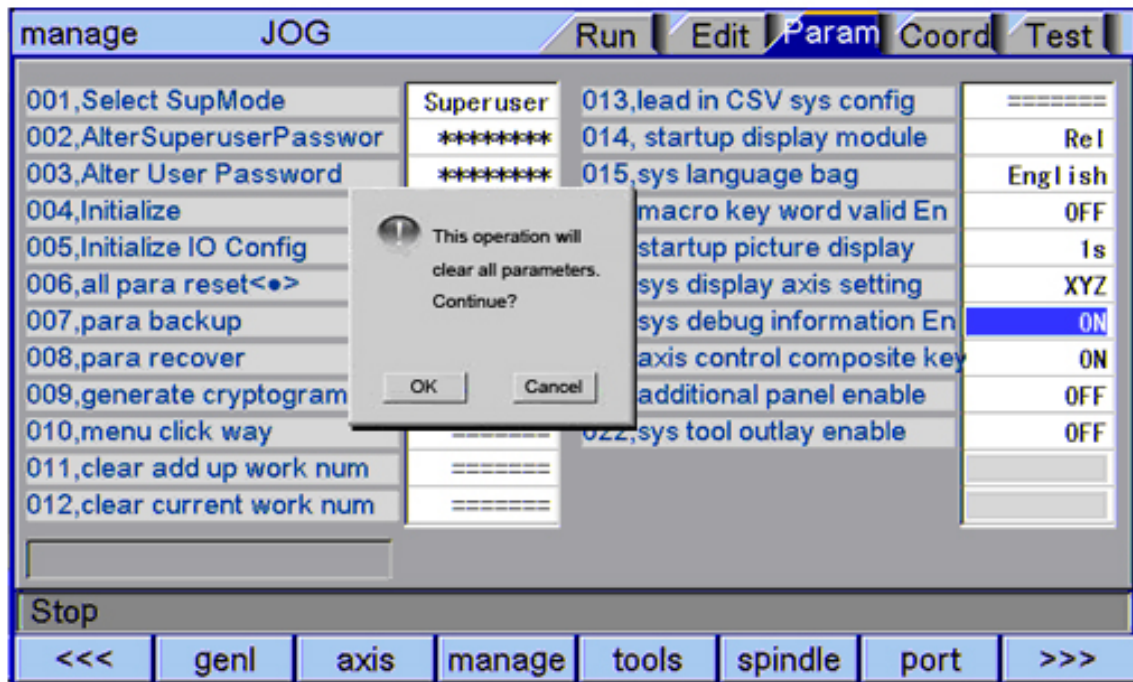

Fig. 9-3
(5) Press **EOB**, the system asks whether clear all parameters, as shown in Fig. 9-3; press [EOB] again, the system restores the default parameters and restarts automatically.